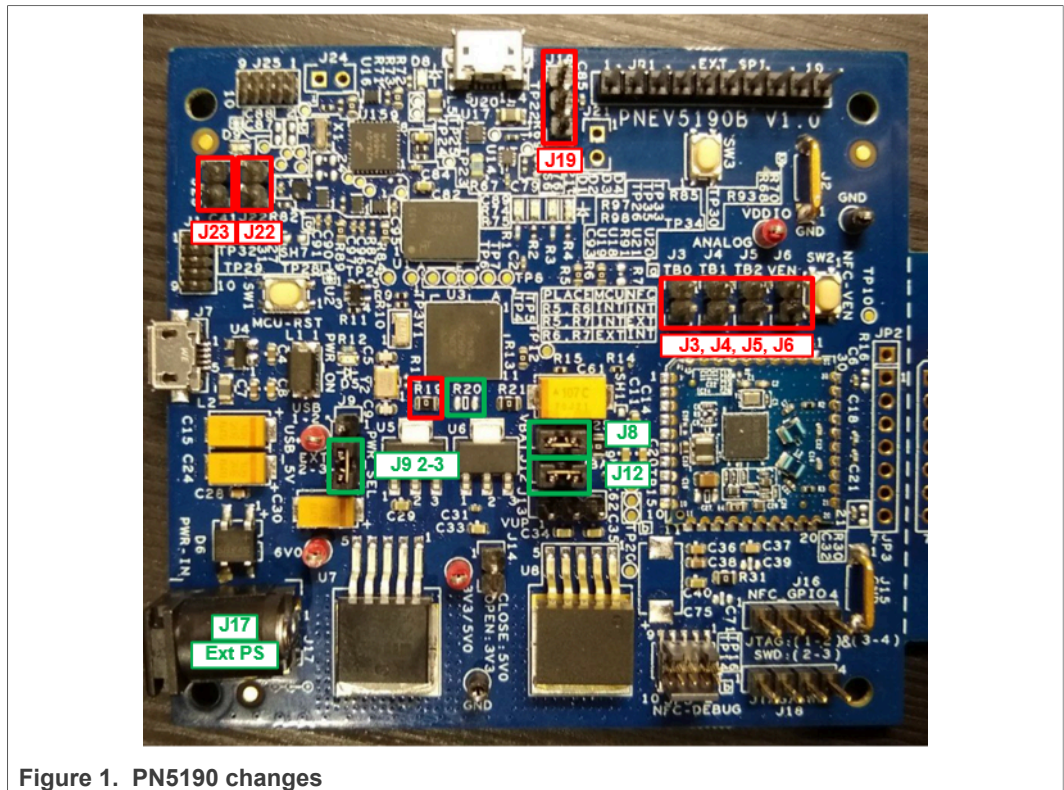

Figure 1. PN5190 changes
- Put jumper on following pins: (see Figure1)
- Remove jumpers on following pins: (see Figure1)
- Set GPIO and SPI voltage to 3.3 V: supplying 3.3 V to VDDIO and the μ C supply: (see Figure1)